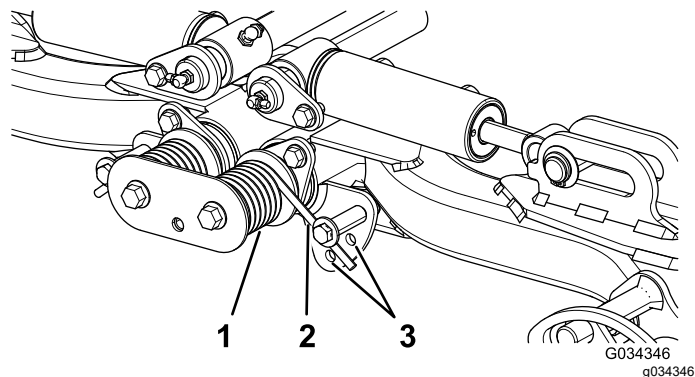

Figure 44
2. Insert a tube or similar object onto the long spring end to relieve the spring tension during the adjustment (Figure 44).
3. While relieving the spring tension, remove the bolt and locknut securing the spring actuator to the bracket (Figure 44).